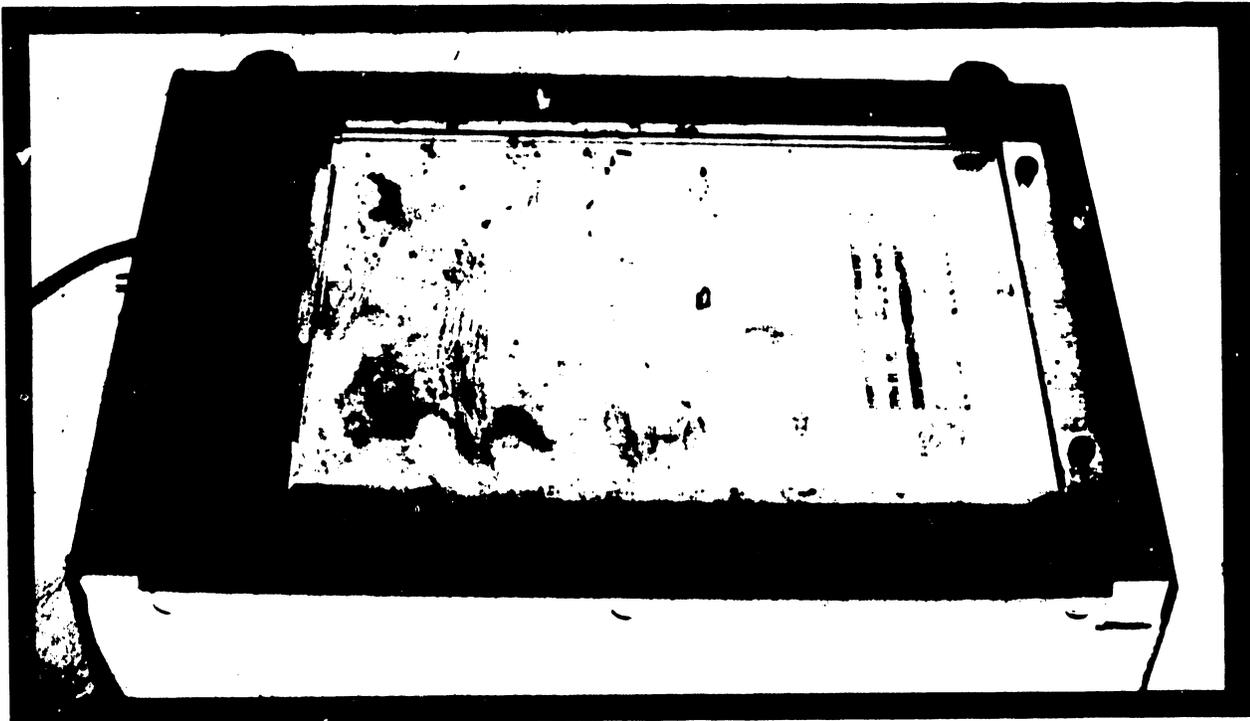

FIGURE 12 BOTTOM VIEW SHOWING REMOVABLE PANEL
**BOTTOM PANEL** - For accessing the non-component side of the motherboard, a removable panel is provided on the bottom of the unit. Remove the two screws securing the panel and slide the panel out. See Figures 12 and 13.